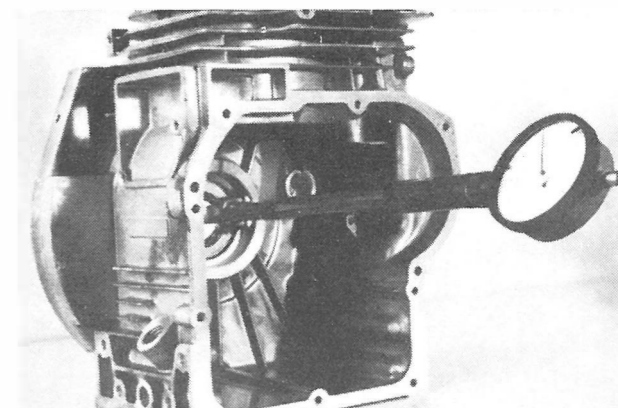

Fig. 29
Contrôle logements bâti, mm. (Fig. 29):
- Measure with dial gauge crankshaft bearing, seal ring and camshaft housings; check housing diameters at three different heights (Fig. 29).
Kontrolle der Kurbelgehäusesitze (Abb. 29), mm: